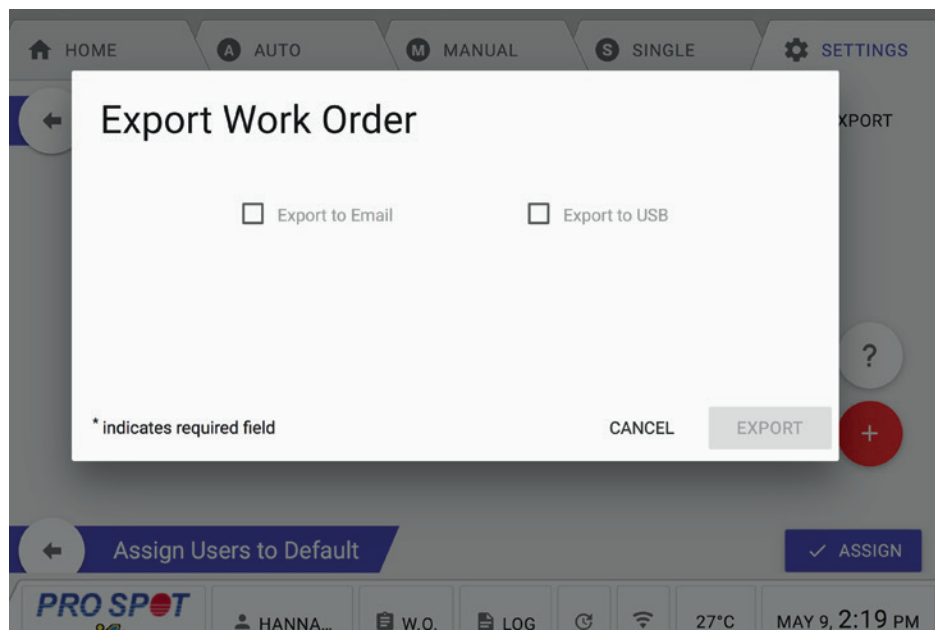

Figure 4.28
2. Once you press the export button you will be taken to the Export Work Order prompt (Figure 4.28).